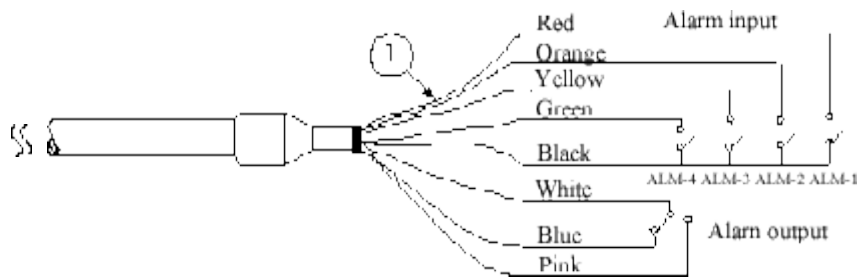

Figure 25
**Connect the alarm lines as Figure 25**